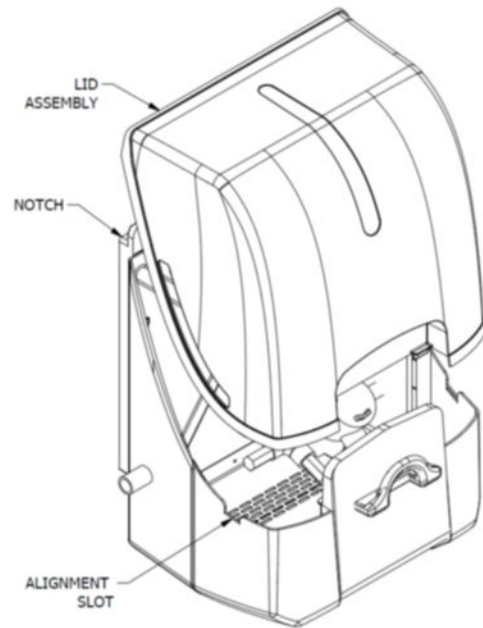

FIGURE 6
Step 5. Lid Assembly (Ref Figure 6) *Lower Insulated Jacket not shown for clarity.*